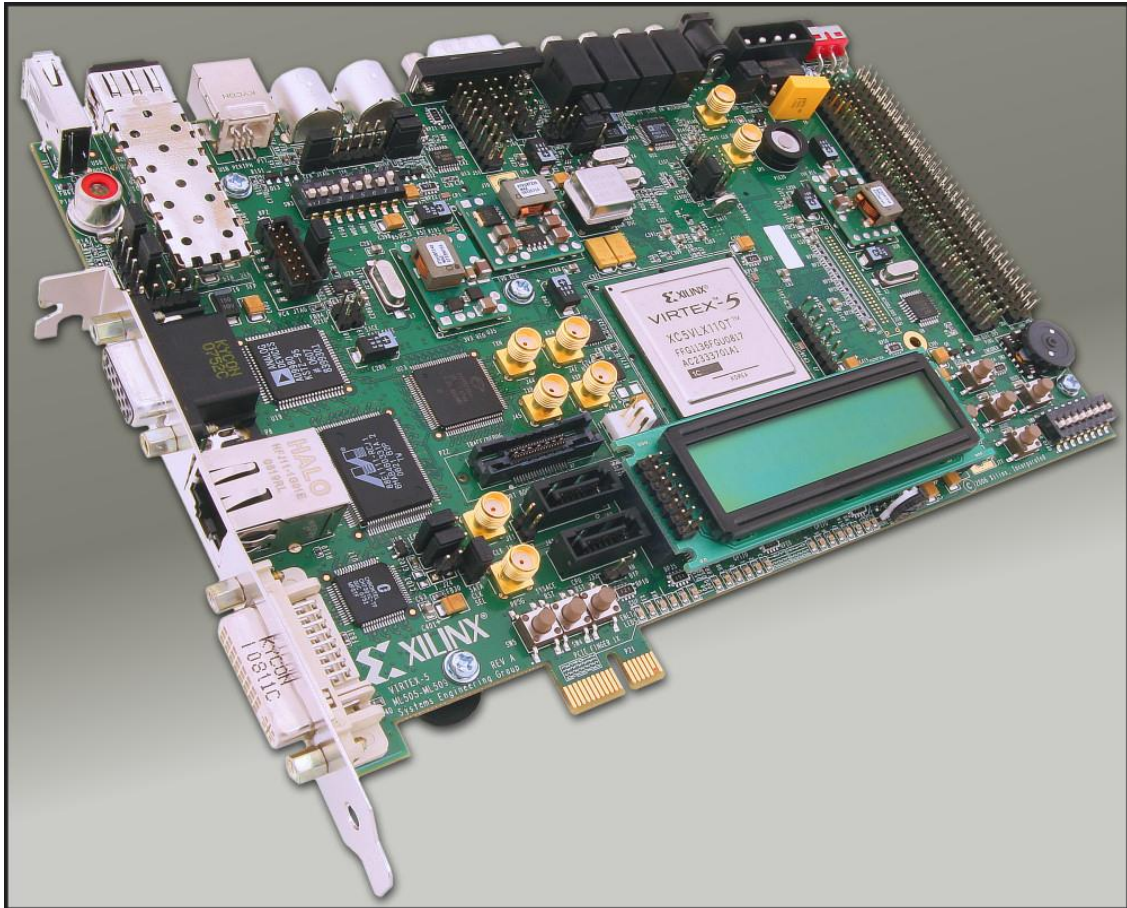

Figure 6-1: XUPV5-LX110T Prototyping Board from Xilinx [HWAFFX]
*In this step, we will test the CPU and application, which were generated in the previous steps, on a FPGA prototyping system. For this purpose, we will use the XUPV5-LX110T Prototyping Board from Xilinx shown in Figure 6-1.*